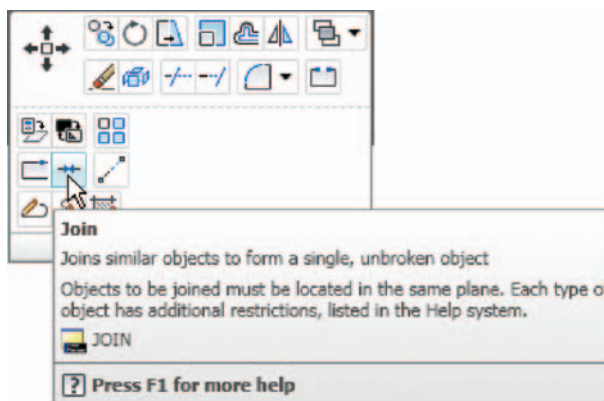

Fig. 5.37 The **Join** tool icon from the **Home/Modify** panel
2. Call the **Join** tool – click the **Join** tool icon in the **Home/Modify** panel (Fig. 5.37), left-click its tool icon in the **Modify** toolbar, select **Join** from the **Modify** drop-down menu or enter **join** or **j** at the command line. The command line shows: